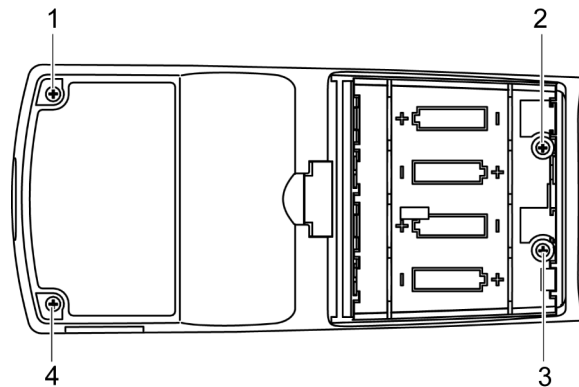

**Figure 19: Battery Spring Alignment**
5. Install the display PCB and CPU PCB into the NPB-40 case. Ensure that the battery springs slip into place. See Figure 19.